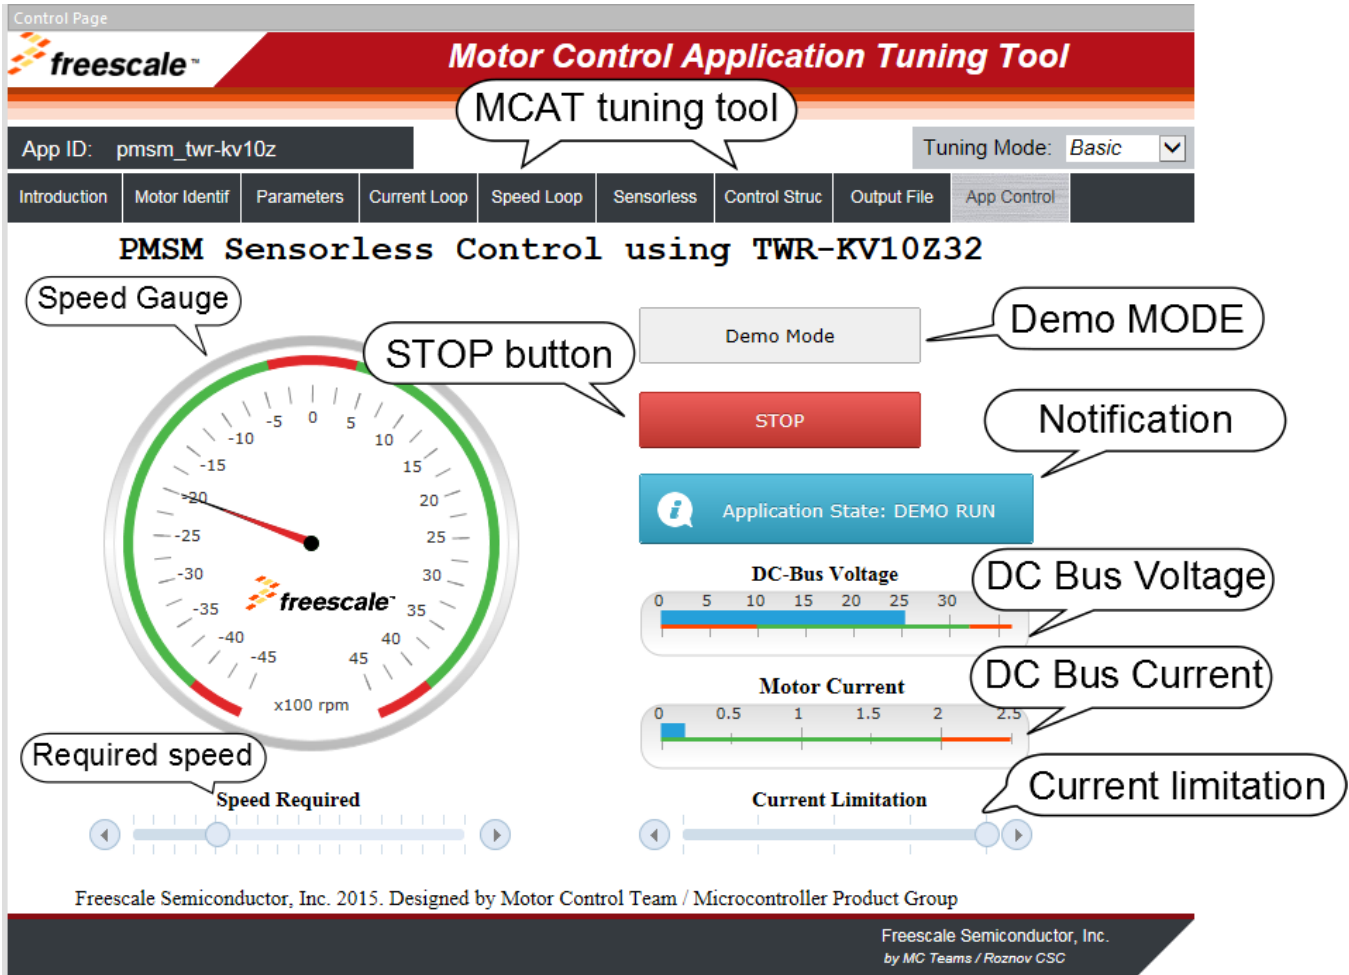

Figure 25. FreeMASTER control page
4. Set up the required motor speed using the speed slider, as shown in Figure 25.
1. Click the “STOP” button in the FreeMASTER control page (Figure 25).
To clear the fault, click the fault notification in the control page (Figure 25).